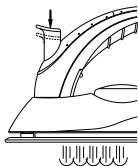

Fig. 2
For particularly stubborn creases the shot of steam function can be used if the Temperature Control Dial (8) is on the hottest setting. Set the Temperature Control Dial (8) to the "MAX" position. Wait for the iron to reach temperature, lift the iron slightly above the surface of the fabric and press the Steam Button (1) firmly, and release. (Fig. 2) Lift the iron slightly above the surface of the fabric by pressing.